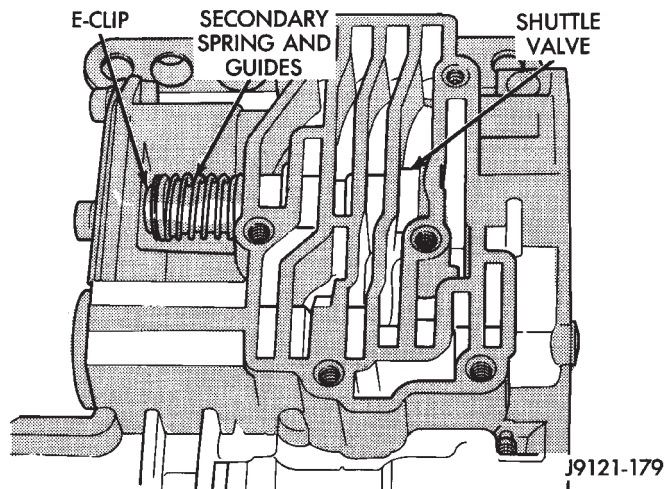

Fig. 54 Shuttle Valve E-Clip And Secondary Spring
(19) Compress spring and install E-clip in groove on shuttle valve stem (Fig. 54).